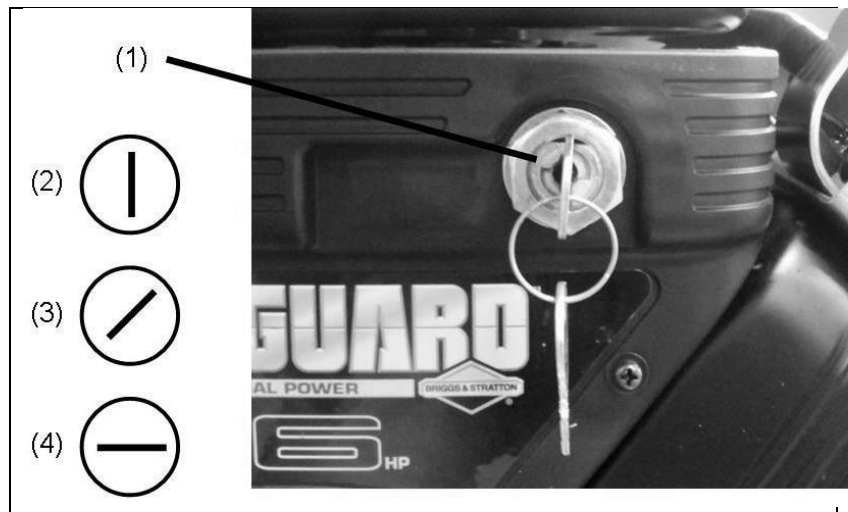

Figure 4-2: Electrical start
2. Bring the key-operated switch (Figure 4-2-(1)) into pos. Start (Figure 4-2-(4)).
3. Bring the key-operated switch into the pos. Operation (Figure 4-2-(3)).
3. Place the key-operated switch (*Figure 4-2-(1)*) in pos. STOP (*Figure 4-2-(2)*).